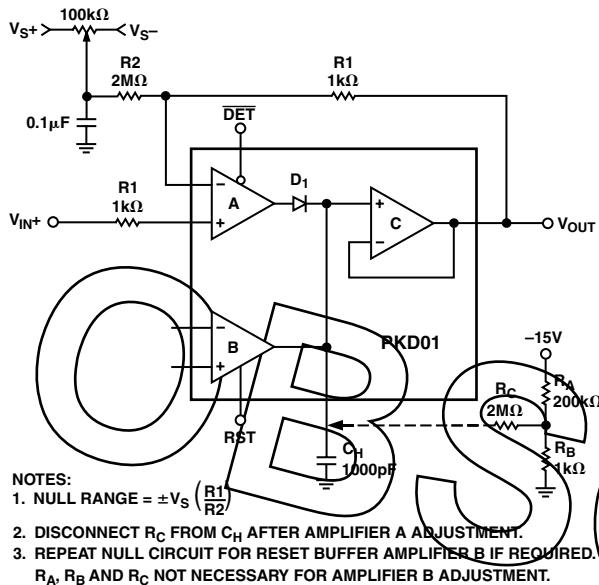

Figure 5. V_{OS} Null Circuit for Unity Gain Positive Peak Detector
Offset voltage is the primary zero scale error component since a variable voltage clamp limits voltage excursions at D_1 's anode and reduces charge injection. The PKD01 circuit gain and operational mode (positive or negative peak detection) determine the applicable null circuit. Figures 5 through 8 are suggested circuits. Each circuit also corrects amplifier C offset voltage error.
B. Nulling Gated g_m Amplifier B. Set Amplifier B signal input to $V_{IN} = 0$ V and monitor the PKD01 output. Set $DET = 1$, $RST = 1$ and adjust the null potentiometer for $V_{OUT} = 0$ V. The circuit gain—inverting or noninverting—will determine which null circuit illustrated in Figures 5 through 8 is applicable.